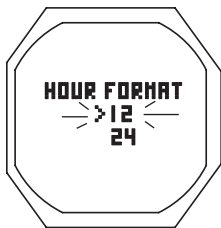

Fig. 21 - SET HOUR FORMAT
**Set Hour Format**, information includes (Fig. 21):